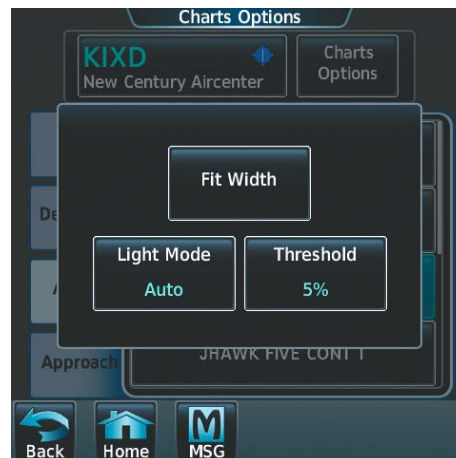

Figure 8-22 Airport Diagram Viewing Options
- 5) Touch the **Charts Options** Button to display the viewing options available for the selected chart (Figure 8-22).